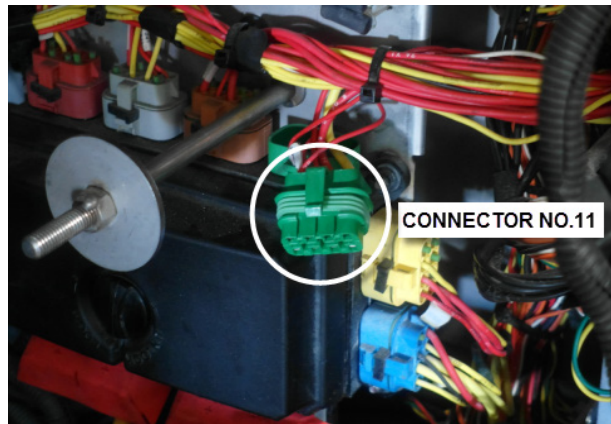

FIGURE 13
3. Using an extractor tool or a small flat blade screwdriver, remove wire 24VDALT from cavity H of connector no.11 (FIGURE 13 to FIGURE 16).